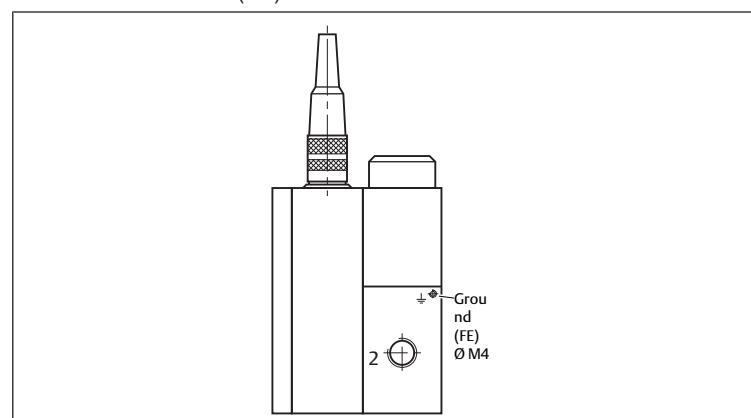

Fig. 2: Grounding the valve housing
2. Use the FE ground connection (\emptyset M4) to establish a low-impedance connection between the valve housing and the ground (FE). See → Fig. 2.